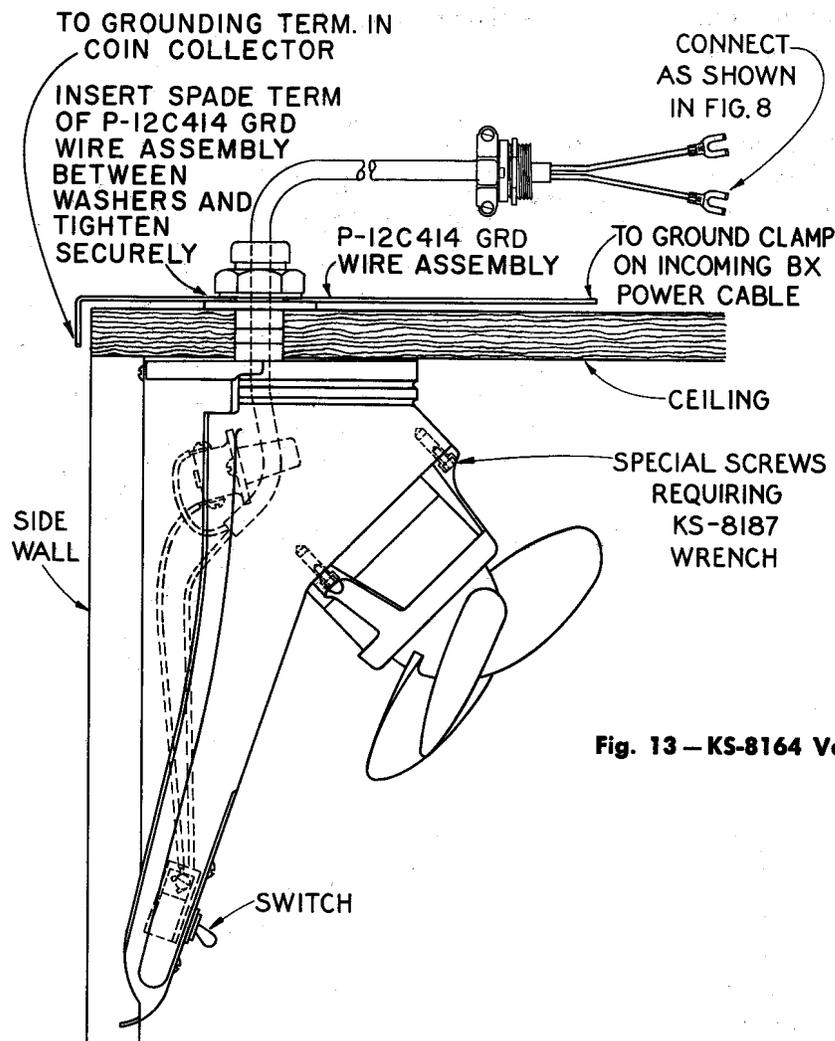

Fig. 13 — KS-8164 Ventilator
8.01 Install KS-8164 ventilator in 5- and 6-type booths as follows (see Fig. 13):
wall and 2-1/16 inches from side inner wall as shown in Fig. 13. If the ceiling is metal-lined, cut through the metal with a 1-inch hole saw; then drill the wood with a 1-inch auger bit.
Ground ventilator by inserting spade terminal of P-12C414 grounding wire assembly between flat washer and lock washer, as shown in Fig. 13.